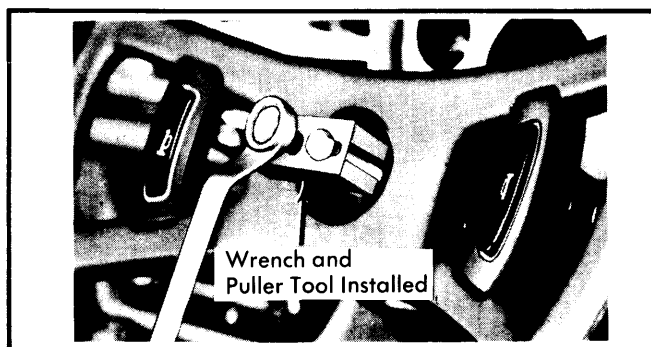

Fig. 1 Using Puller to Remove Steering Wheel
3) Remove steering wheel mounting nut and washer (if equipped), then using a puller, remove steering wheel from shaft. See Fig. 1.